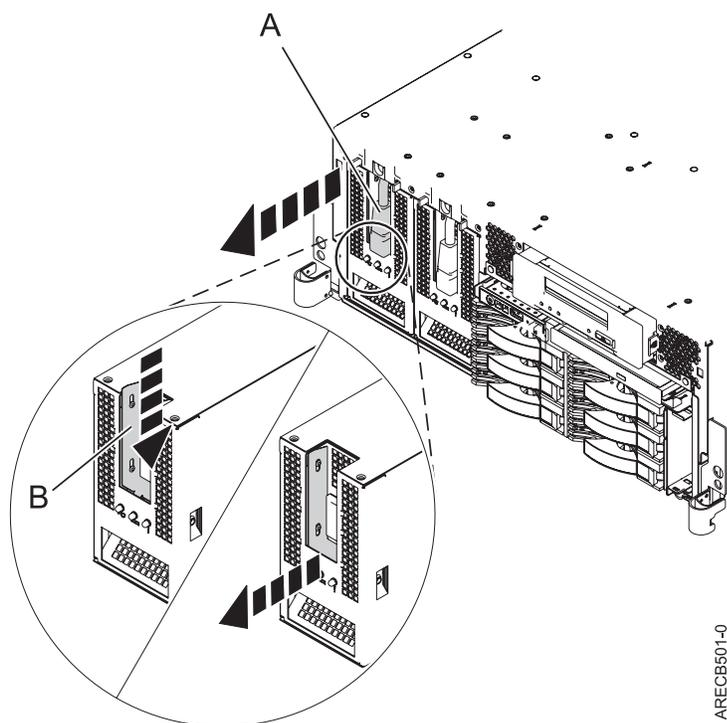

Figure 7. Removing the power supply
5. Disconnect the power cable (A) from the front of the power supply as shown in Figure 7 on page 10.
6. Push down on the locking latch (B) as shown in Figure 7, and then use the locking handle to pull the power supply out of the system.